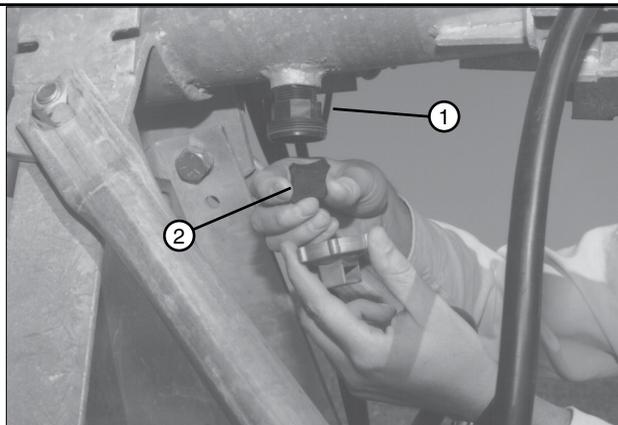

Figure 72-1 1. Pipe Drain
2. Remove the pipe drains at each tower and clean sand and foreign particles from these drains. Turn the rubber drain seal over when reinstalling. See figure 72-1.